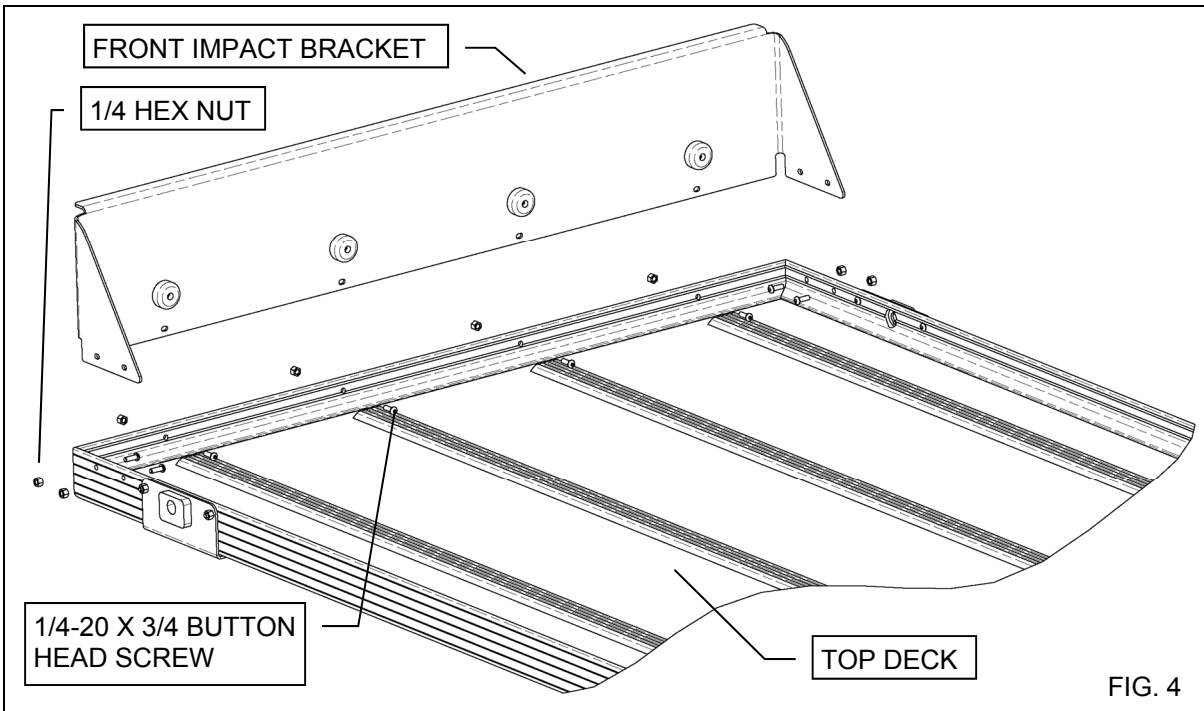

FIG. 4
6.14 Attach the Front Impact Bracket to the Top Deck using the (8) 1/4-20 X 3/4 Button Head Screws and (8) 1/4 Hex nuts. (FIG. 4)